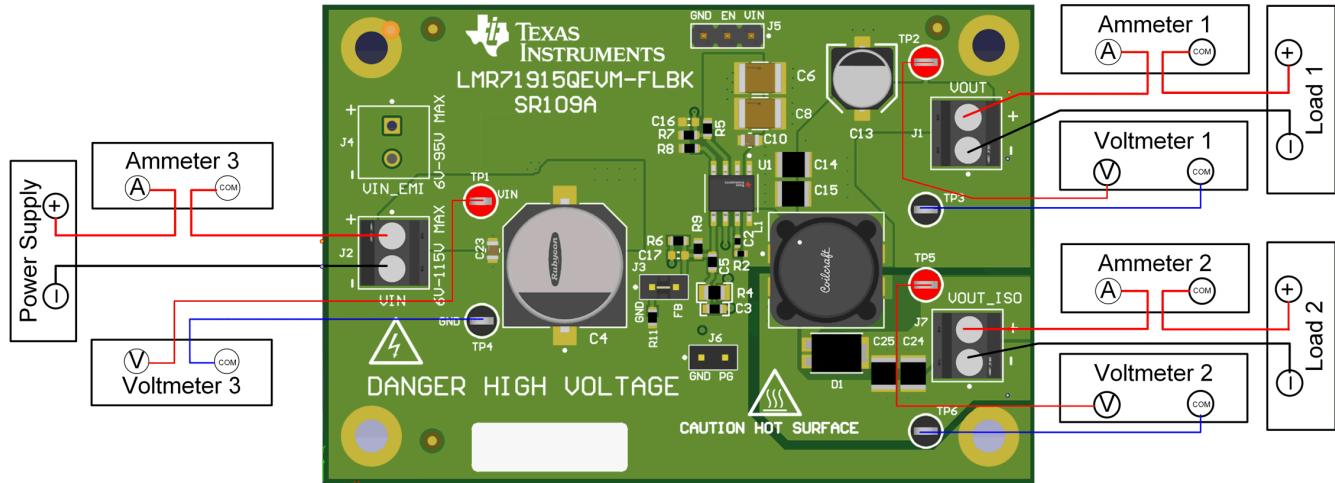

Figure 2-1. EVM Test Setup
Figure 2-1 shows the diagram of EVM bench test setup. Refer to Section 2.2 and Section 2.3 in this user's guide for detailed information of headers, jumpers and test points. Refer to Section 2.4 for the setup assembly and test procedure. Refer to Section General Texas Instruments High Voltage Evaluation (TI HV EVM) User Safety Guidelines for the important notice on safety concerns when handling the EVM.
- Prior to connecting the DC input source, set the current limit of the input supply to 100mA maximum. Verify the input source is initially set to 0V and connected to the (+) and (–) connection points of J2, as shown in Figure 2-1. TI recommends an additional input bulk capacitor to provide damping if long input lines are used.
- Connect Load 1, either a resistor load (preferred) or an E-load to (+) and (–) connection points of J1 as shown in Figure 2-1. Set the load to CR or CC mode at 0A before applying input voltage.
- Connect Load 2, either a resistor load (preferred) or an E-load to (+) and (–) connection points of J7 as shown in Figure 2-1. Set the load to CR or CC mode at 0A before applying input voltage